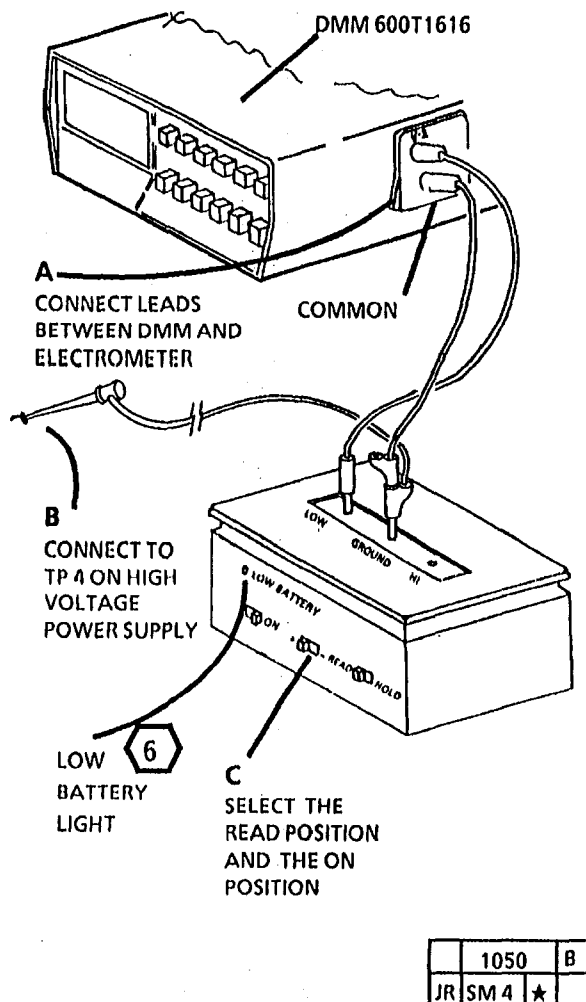
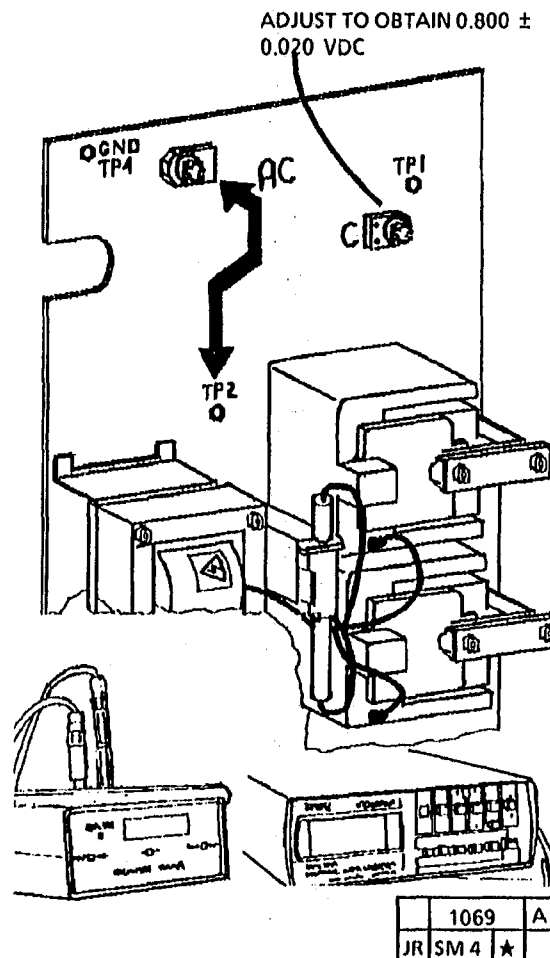

Figure 6. Connecting the Electrometer
Figure 7. Adjust the Charge Voltage
15. (Figure 6): Connect DMM to electrometer. 16. (Figure 7): Adjust charge voltage.
- a. Connect the red lead (+) to TP1 (Figure 7).